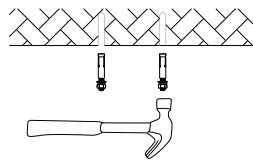

Figure 4
- Step 2. Place screws into the holes with a hammer. (Figure 4)